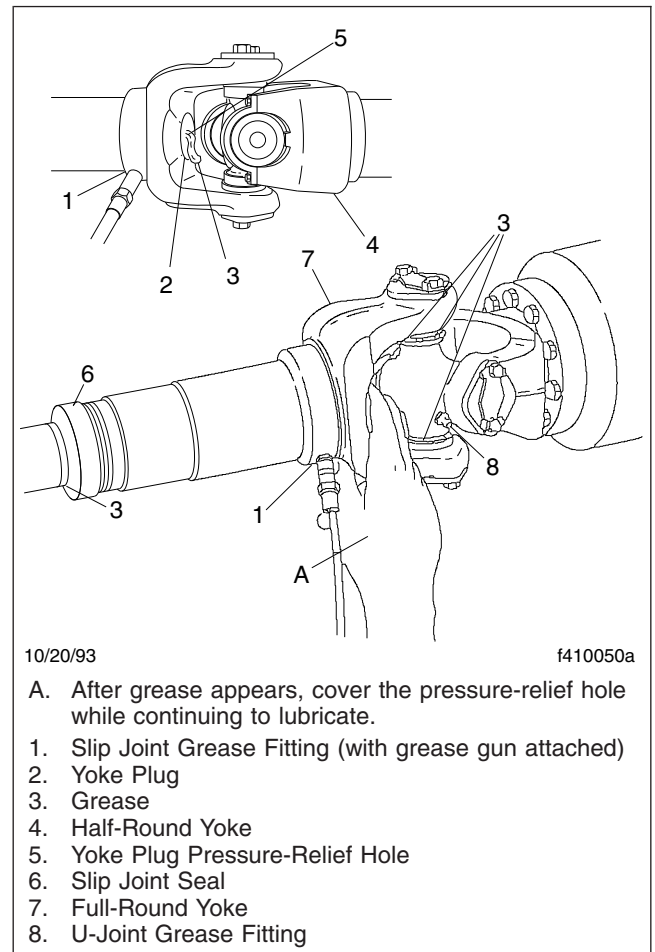

Fig. 5, Slip Joint and U-Joint Lubrication
9. For driveshafts with slip joints, check to be sure the yoke plug is not loose or missing. See **Fig. 5**,
2. Wipe all old grease and dirt from each U-joint grease fitting. See Fig. 5, Ref. 8.
1. If equipped with a grease fitting, wipe all old grease and dirt from the slip joint grease fitting. See Fig. 5, Ref. 1.
2. Use a hand-type grease gun or a high-pressure gun with a low-pressure adapter, to lubricate the slip joint. Add multipurpose chassis grease (lithium 12-hydroxy stearate, NLGI Grade 1 or Grade 2, with EP additives) until it appears at the pressure-relief hole in the yoke plug. Then cover the relief hole with your finger, while continuing to apply gun pressure until new grease appears at the slip joint seal. See Fig. 5. This ensures complete lubrication of the splines.